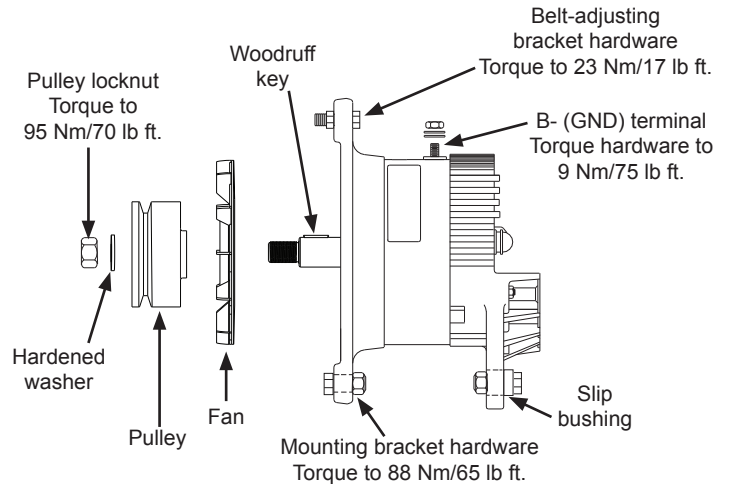

Figure 1: N1026 Alternator Assembly and Mounting
3. Slide fan and pulley (available separately) onto alternator shaft until firmly seated. Secure with hardened washer and nut. Torque nut to 95 Nm/70 lb ft. See Figure 1.